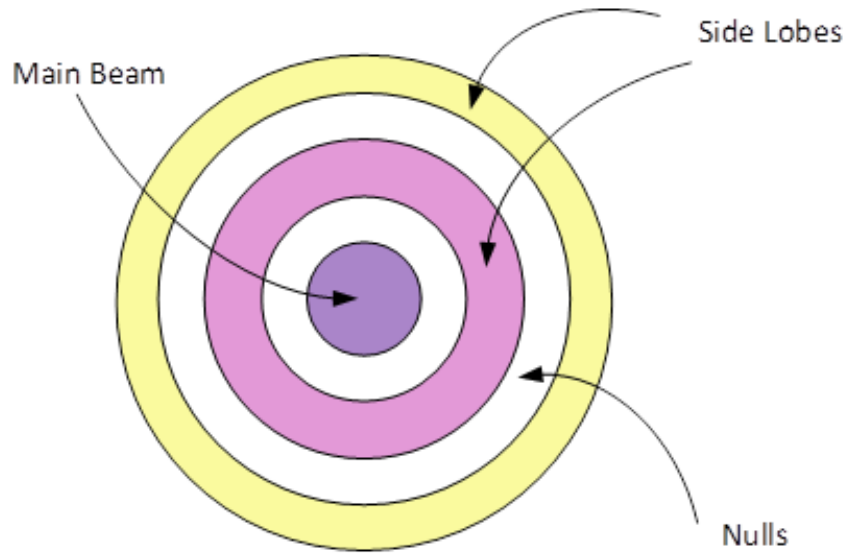
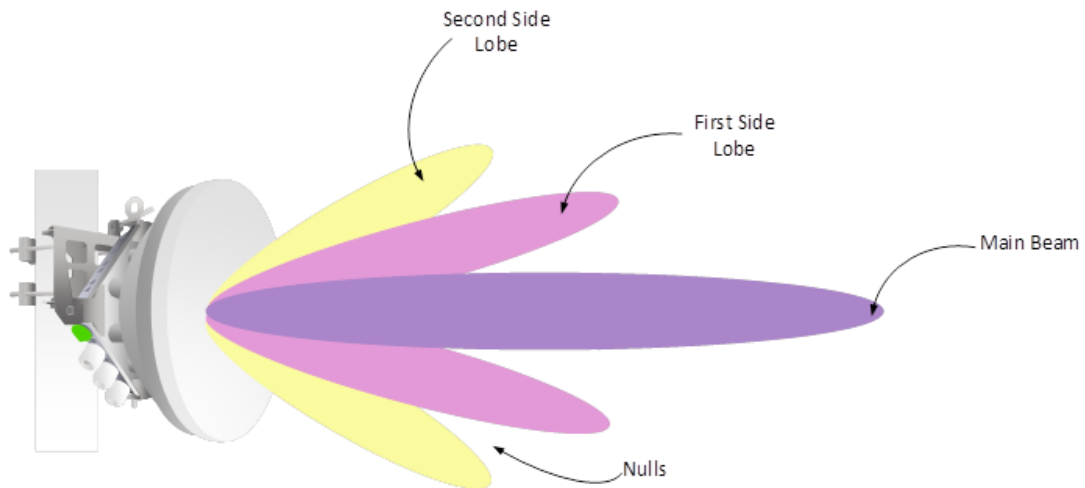

Figure 3. Front View
Figure 4. Side View
- Remember that the key characteristic of any antenna is its radiation pattern. It describes how the antenna will transmit the signal. Looking at the radiation pattern (see Figure 3 and Figure 4 below in the section "Notes"), it's clear that the signal propagates in multiple paths (directions). These paths are called lobes. Each antenna has a main lobe and several side lobes. The difference in amplification (signal strength) between the main lobe and side lobes is typically around 20 dB. This, of course, varies with antenna size,